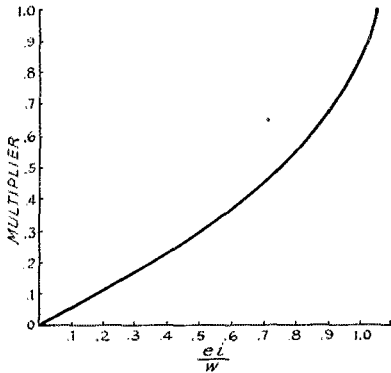

Fig. 2
watts by any misadjustment of the circuit, even including such mistakes as removing plate voltage entirely. (In this, and in all other formulas to follow, currents must be expressed in amperes, voltages in volts, and resistances in ohms.) From expression (1) it turns out that for most tubes,  $a$  may be chosen anywhere within a considerable range of values without the maximum possible screen dissipation exceeding the allowable value. One thing of interest is to find out how small  $a$  can be made without danger of exceeding the allowable screen dissipation, because the smaller  $a$  can be made the better the screen voltage regulation. This can be found as follows: Let  $W$  be the allowable watts screen dissipation while  $ei$  is of course the normal screen dissipation. (To play extra safe  $W$  can be taken somewhat smaller than the maximum rating if desired.) Then the smallest safe value for  $a$  is obtained by multiplying the quantity  $E/2i$  by the multiplier given by Fig. 2. Once the value of  $a$  is decided upon,  $b$  may be obtained from the formula
That is all there is to it. To show how the calculation is made in a particular case, consider the 813 tube acting as a grid-modulated amplifier. From the tube instruction sheet we find  $E = 2000$ ,  $e = 400$ ,  $i = 0.003$ , and  $W = 15$ . Let us decide to play extra safe and take  $W$  as 10 watts. Then  $ei/W = 0.12$  and from Fig. 2 the multiplier is
Having now obtained some values for  $a$  and  $b$  that will make the screen safe under any and all conditions, let us see what sort of voltage regulation there will be. Under normal conditions, of course, the screen voltage will be 400. Now suppose that screen current is stopped completely, as by lack of excitation in the presence of cut-off bias. Then the voltage will become 2000 multiplied by the ratio  $b/(a + b)$ , or 412 volts. This is not much of a rise. In fact, it is so little that we had better start all over again and assume a much smaller value of  $W$  so as to come out with much higher values of  $a$  and  $b$  and thus not waste so much power in them, a thing especially to be avoided in case the voltage applied to  $a$  and  $b$  is modulated. So let us jump to the extreme case of setting  $W$  equal to the normal screen input. Then the screen input is always lessened when the adjustments of the transmitter depart in any way from normal. Taking  $ei/W$  as unity, Fig. 2 gives a multiplier of unity and  $a$  is found to be a third of a megohm. As a result,  $b$  must be two-ninths of a megohm. These resistances are now so great that there is not much power wasted in them, but the regulation is not as good as before. In fact, the screen voltage will be found to rise to twice its normal voltage in the absence of screen current whenever we take  $W$  as equal to the normal screen input in calculating  $a$  and  $b$ .